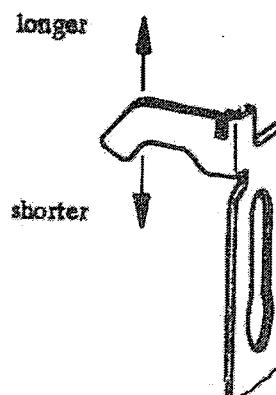

Fig. 18.2
* If a correction by rotation of the eccentric is not possible, the lug of the slide 12.1/1 (see Fig. 18.2) can be appropriately bent.